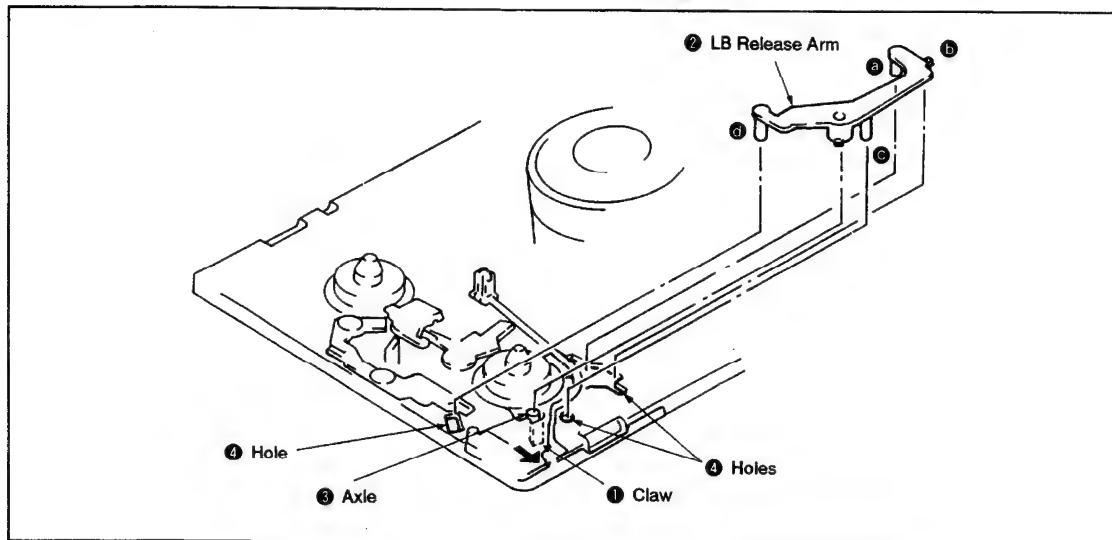

Fig. 3-6.
1. Removal (See Fig. 3-6.)
- 1) While pushing the claw ① in the direction of the arrow, remove the LB release arm ②.
2. Installation (See Fig. 3-6.)